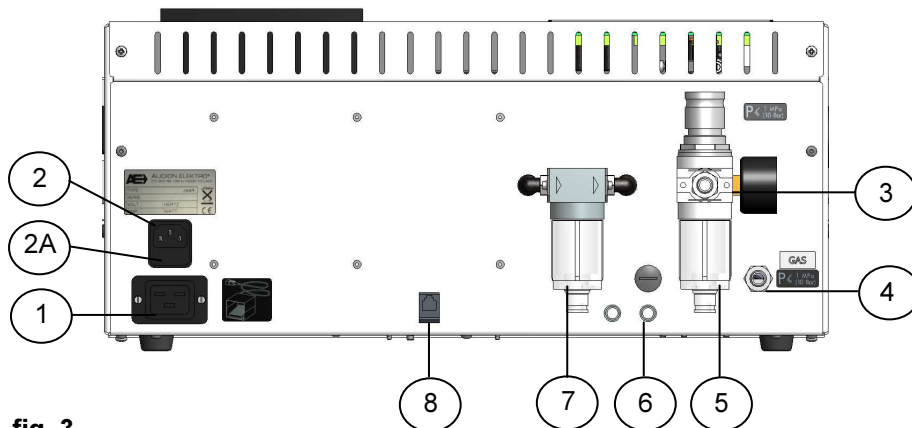

fig. 3
Insert the plug into the connection (1) at the rear of the machine. (see fig. 3).
Insert the female plug of the mains cable into the mains socket (2) at the rear of the sealer. (see fig. 3).
Connect an air hose to the connecting nipple (3). (see fig. 3).
Connect the gas hose to the gas connection (4) at the rear of the machine (see fig. 3).
- o Connect a cable with a DIAG connector (nr. 355-05428) to the DIAG port (8) of the Magvac. (see fig. 3).